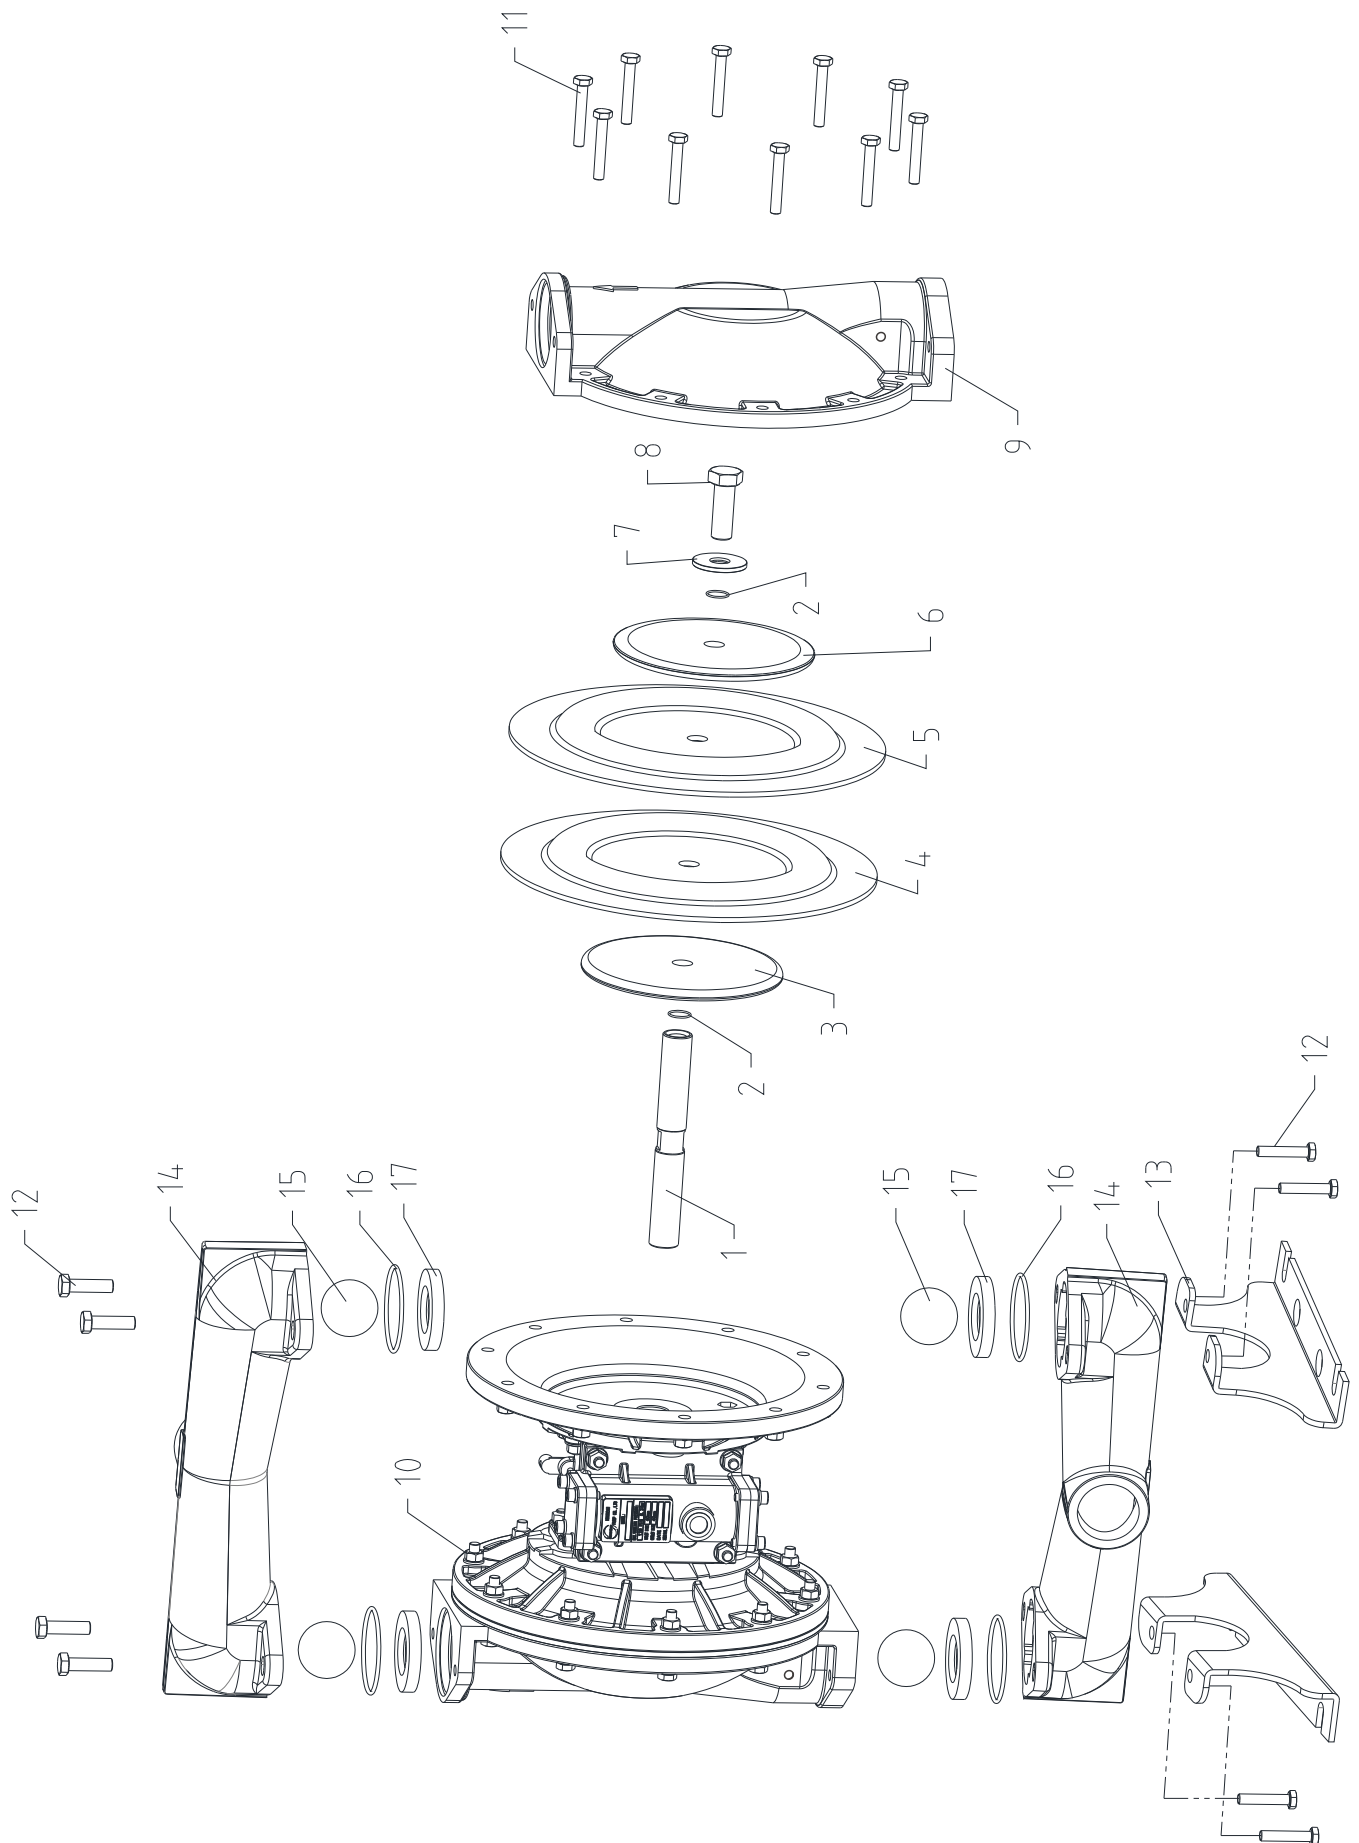

Figure 3
- 1.Remove (105 ) nuts, and (188 ) major valve. See figure 3.